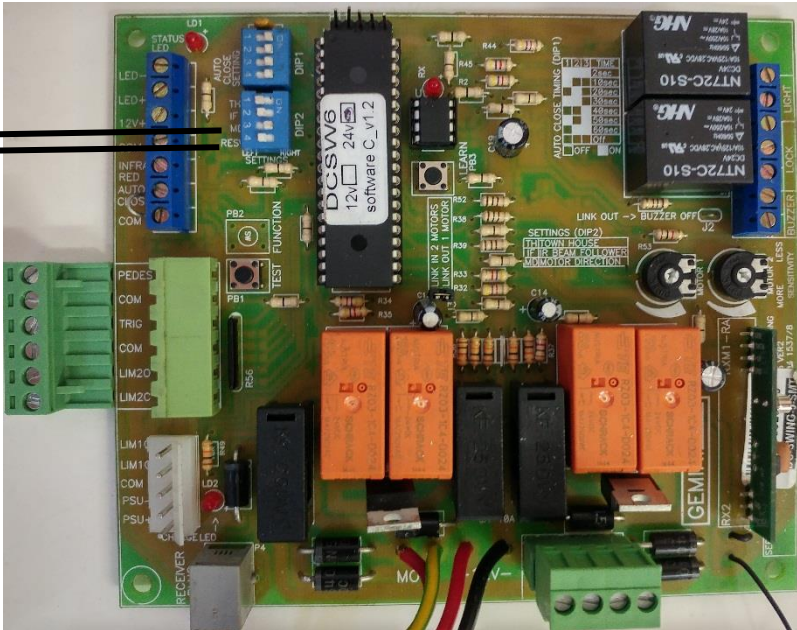

Figure 7
Refer to Figure 7 below
7.7 SELECTING THE DOUBLE OR SINGLE SWING OPTION (See figure 7)